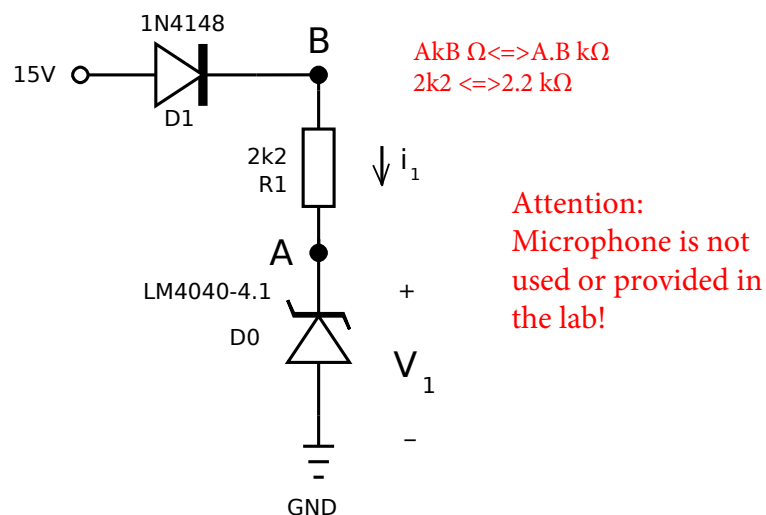

Figure 3.8: Block 1: Power.
1. What is the function of D0 and D1 in the circuit shown in Figure 3.8?